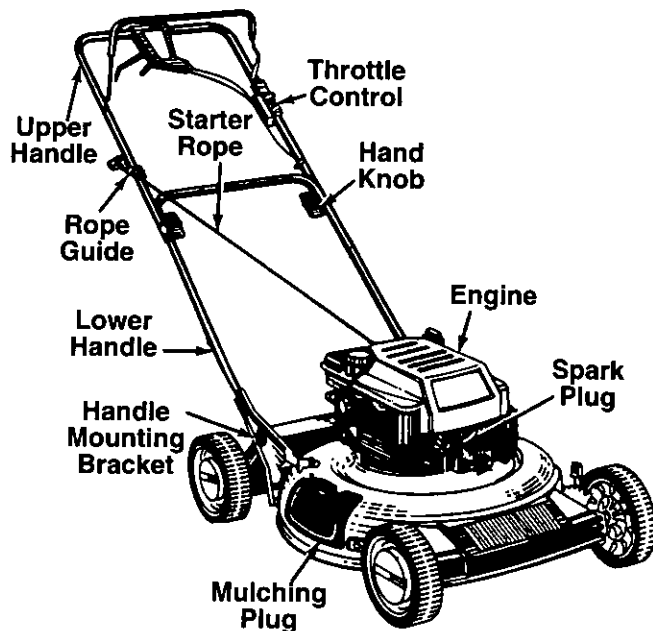

Figure 3.
Refer to Figure 3.
- Pull up and back on the upper handle to raise the handle into the operating position. Make certain the lower handle is seated securely into the handle mounting brackets. Tighten the hand knobs on each side of the handle (carriage bolts must be seated properly into the handle). See Figure 3.